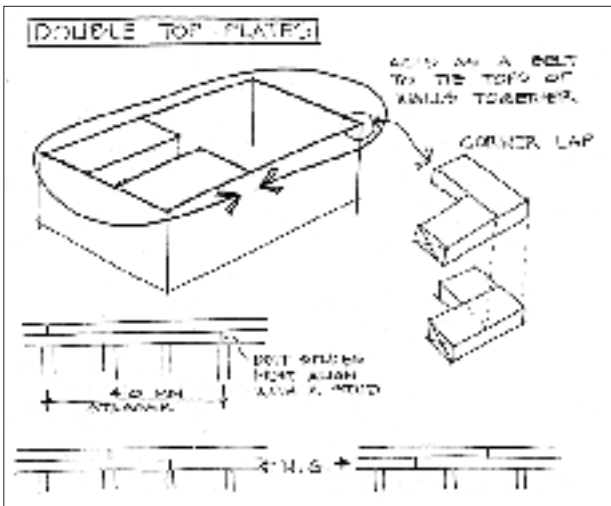

Figure 9. Staggered joints (4'-0" min.) and lapped corners are needed to tie walls together and to create a strong double-top.
**Double top-plate.** Any contractor who has ever walked a wall remembers nailing the double top plates. These act as a continuous tie around the top of the walls. To work as they are supposed to, they must be lapped at corners and T-walls (see Figure 9). Also, butt-splices must be staggered at least 4'-0" on center apart. Notches that break the continuity (from heating ducts or vent stacks) must be metal strapped to tie the double plate back together.